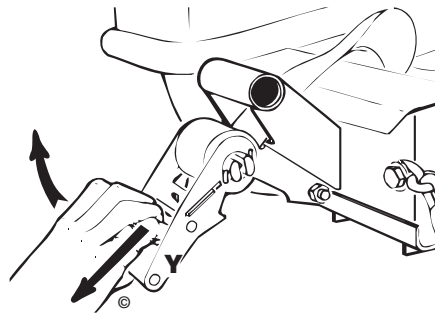

Figure 7
2. Pull on the tire strap ratchet release and raise the handle as far up as you can; (Figure 7) then pull on the tire strap to unroll and remove strap from the spool. Lay the strap assembly to the outside of the ramp, or on the ramp.